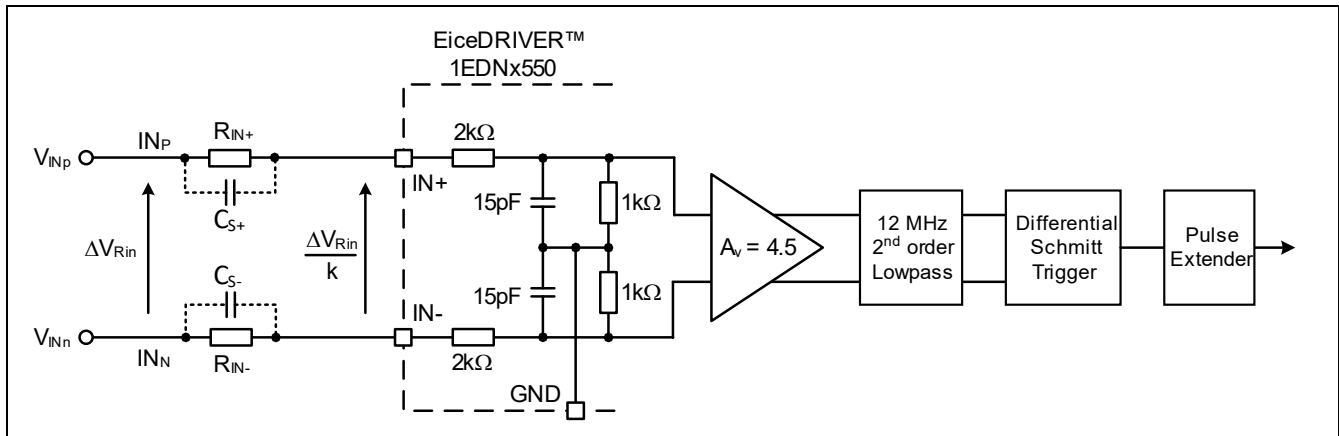
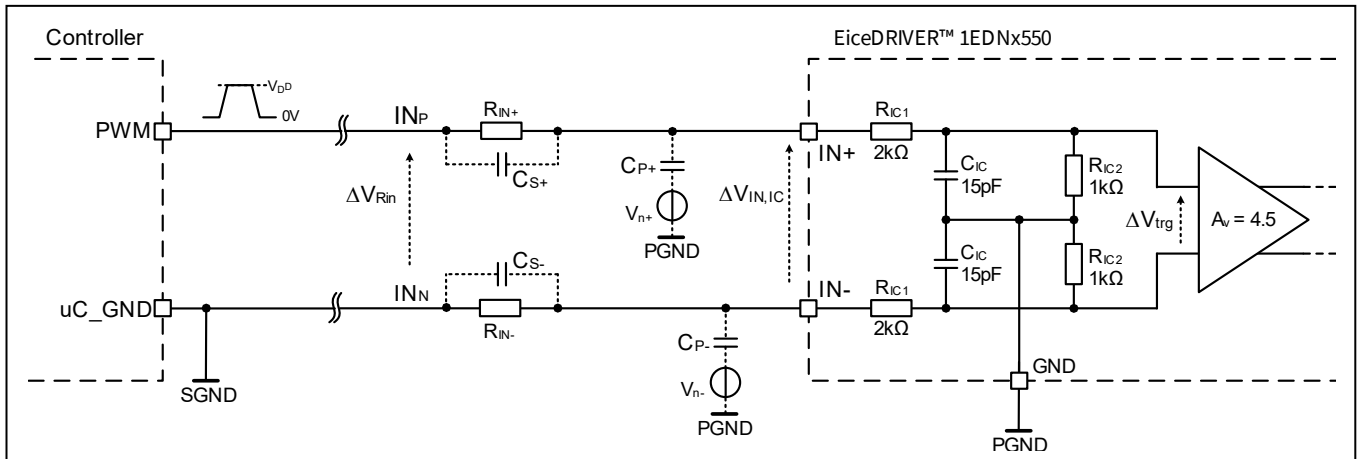

Figure 3 TDI input stage of the EiceDRIVER™ 1EDNx550 gate driver IC
Figure 14 EiceDRIVER™ 1EDNx550: equivalent circuit model for the input signal
The two input resistors R_{IN+} and R_{IN-} are mandatory for proper operation of the EiceDRIVER™ 1EDNx550, as they enable rejection of the common-mode voltage and scale the PWM voltage as shown in **Figure 3**.
The two key points presented in Section 3.1.1 can be quantitatively analyzed by means of the full equivalent circuit presented in Figure 14, which introduces PCB parasitic capacitances C_{P+} and C_{P-} to the model already shown in Figure 3.
In **Figure 14** a single-ended PWM signal with amplitude V_{DD} is generated from the controller and is routed as a differential pair IN_P/IN_N (i.e., traces close together) from the controller to the input resistors R_{IN+} and R_{IN-} . The two input resistors shall be placed as close as possible to the gate driver IC.
Table 2 Description of the components represented in the equivalent circuit model of Figure 14
¹ According to Equation [1] and **Figure 14**, the peak-to-peak voltage of $\Delta V_{IN,IC}$ between pins $IN+$ and $IN-$ is V_{DD}/k . It is important to notice that, since k is greater than 1 (e.g., $k = 12$ for $R_{IN-} = R_{IN+} = 33 \text{ k}\Omega$), signal $\Delta V_{IN,IC}$ is the most sensitive to noise. This already suggests placing R_{IN-} and R_{IN+} as close as possible to the gate driver IC.
According to the model in **Figure 14**, the $\Delta V_{IN,IC}$ voltage and the associated IN+ and IN- nets are the most critical from the noise perspective. This confirms that layout symmetry and PCB parasitics C_{p+} and C_{p-} must be kept under control during routing: keeping IN+ and IN- input traces symmetrical and avoiding capacitive coupling to any switching or noisy net is fundamental to achieve optimal performances and CMR levels listed in **Table 1**.
- 3) Minimize C_{P+} and C_{P-} by placing resistors R_{IN+} and R_{IN-} as close as possible to the gate driver IC. The lower C_{P+} and C_{P-} , the lower the effect of V_{n+} and V_{n-} (see Figure 14) on the input signal
- 3) Minimize C_{P+} and C_{P-} by placing resistors R_{IN+} and R_{IN-} as close as possible to the gate driver IC. The lower C_{P+} and C_{P-} , the lower the effect of V_{n+} and V_{n-} (see Figure 14) on the input signal.